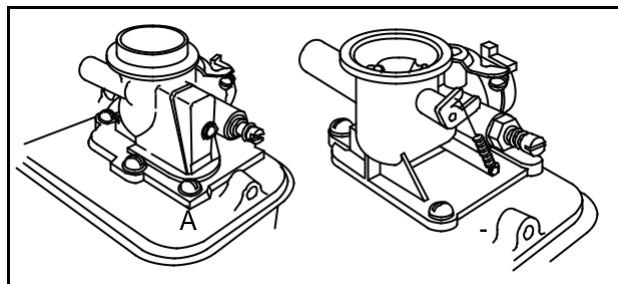

Fig. 218 - PULSA-JET CARBURETORS
There are two (2) basic types of Pulsa-jet carburetors used on above series engines. They are - Automatic Choke, and A CHOKE-A-MATIC, Fig. 218.